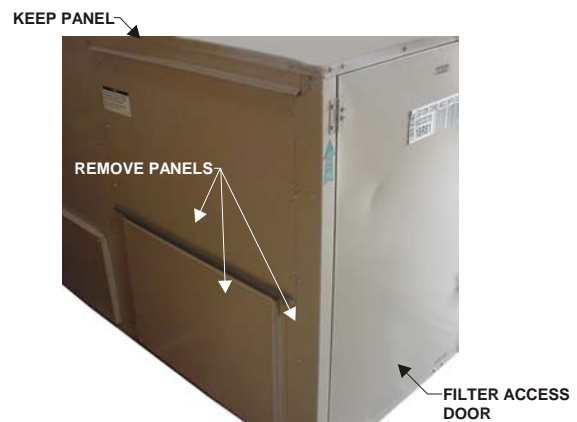

Figure 1
3. Remove the rooftop unit horizontal return air access panels. Also remove any hoods and/or power exhaust equipment. Discard hoods, power exhaust equipment, and horizontal return air panels. See Figure 1.